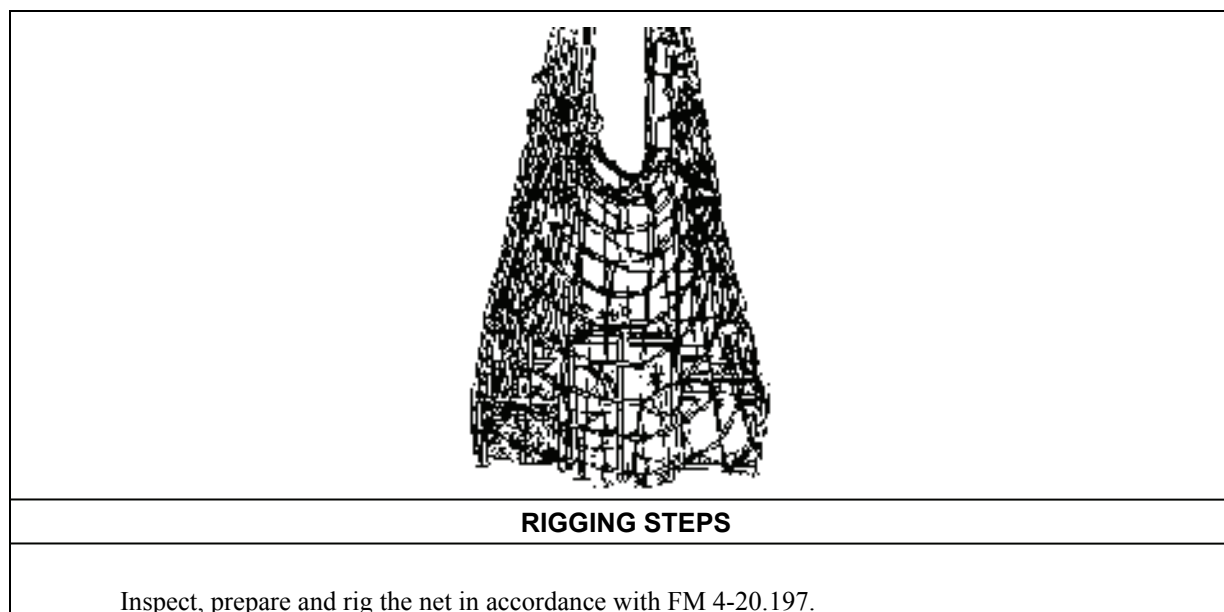

Figure 14-1. Forward Area Refueling Equipment
- **Rigging.** Rig the load according to the steps in Figure 14-1.